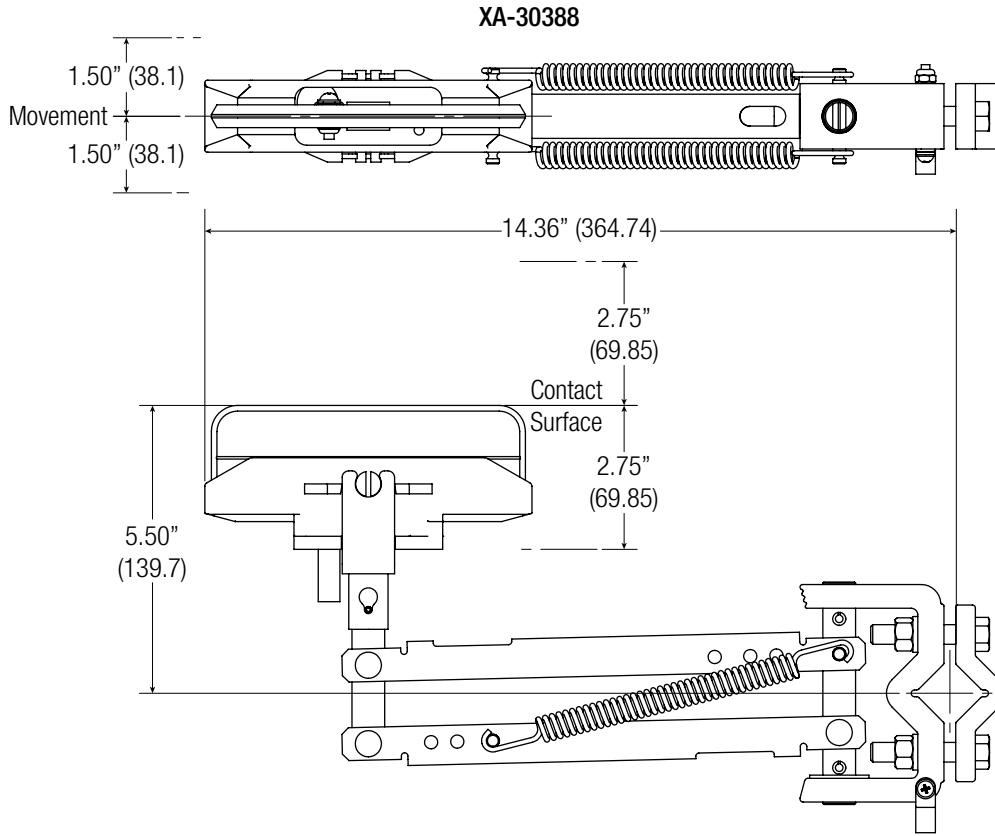

**Figure 14-2 - XA-HB2C-600T-42-LATL**
14.4.1 Instructions are given looking down at the collector from above as viewed in **Figure 14-2**.